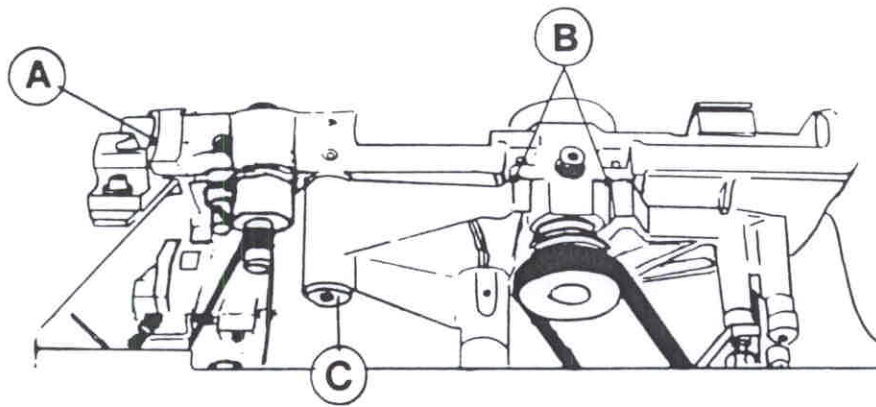
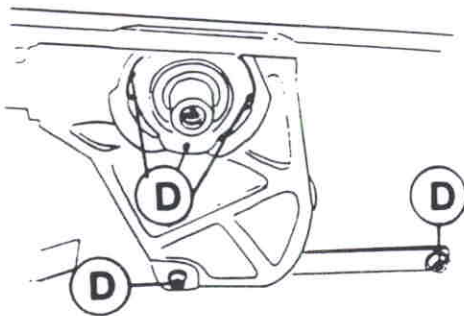

Fig.59
Fig.60
- 1) Slideways (A fig.59) for saw blade tilting
- 2) Surfaces (B) and pivot (C) for saw blade lifting
- 3) Joints (D fig.60) of riving knife